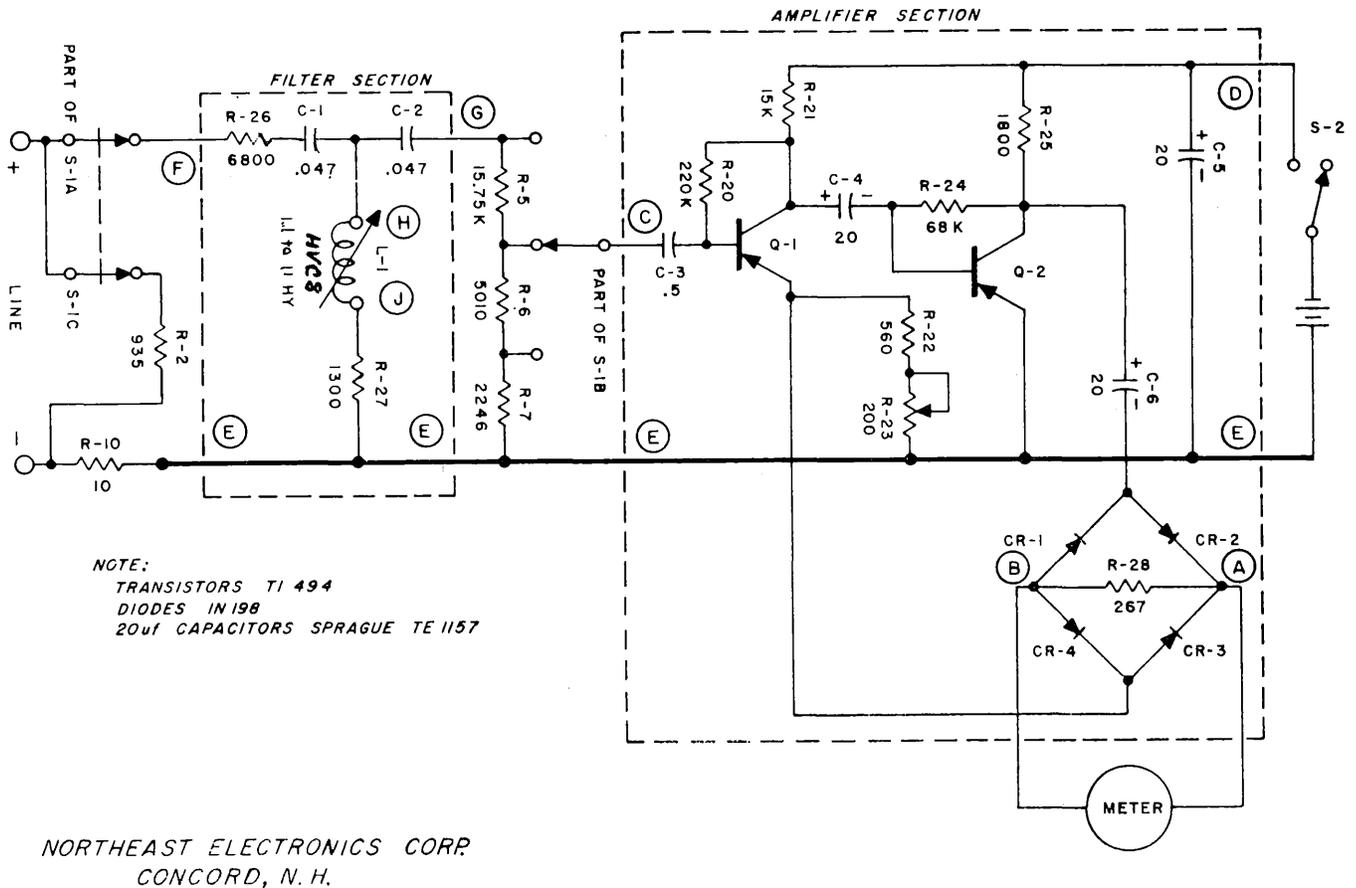

Figure 3 — Model TTS-28 — Level Measuring Circuit
2.03 The amplifier is a conventional transistor amplifier in which the rectifier bridge supplying the meter is inserted in the feedback path. Specially selected components as well as the use of negative feedback provide stability of effective gain with variations in temperature and battery voltage. The basic circuit of the high pass filter attenuator, the amplifier, and the meter is shown in Figure 3. The amplifier-rectifier combination is designed to deliver approximately 0.5 milliamperes in the meter circuit. A 50-microampere meter is required to provide the necessary 20,000 ohms per volt dc sensitivity. Therefore, the meter is shunted when it is used in the amplifier output circuit.